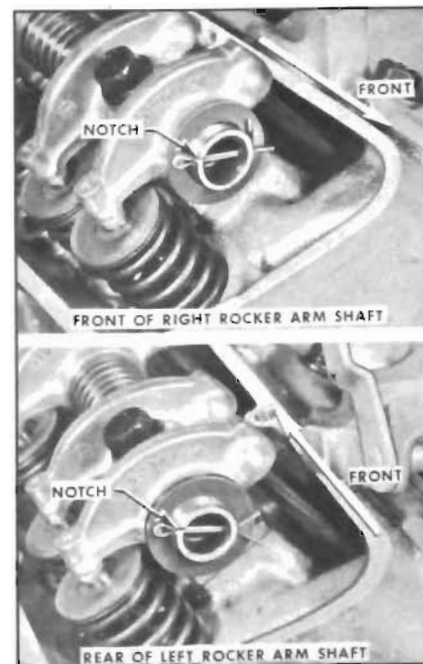

Figure 2-62—Rocker Arm Shaft Alignment
9. Check notch on one end of rocker arm shaft. Be sure it is positioned as shown in Figure 2-62.